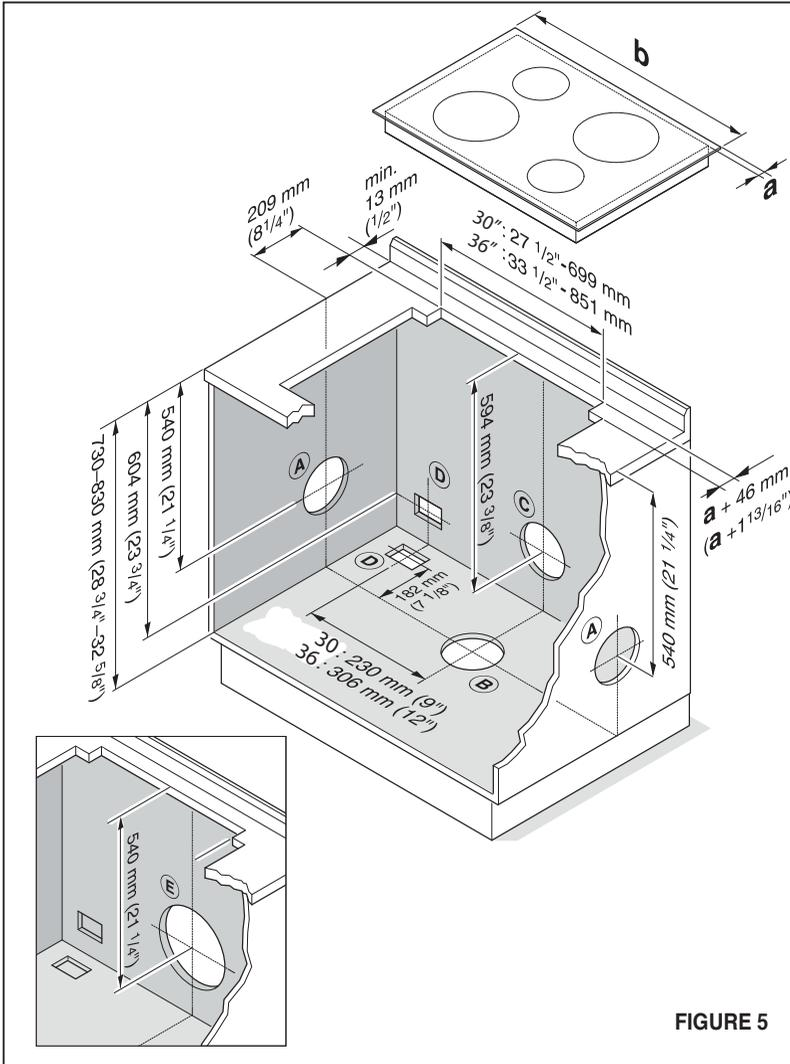
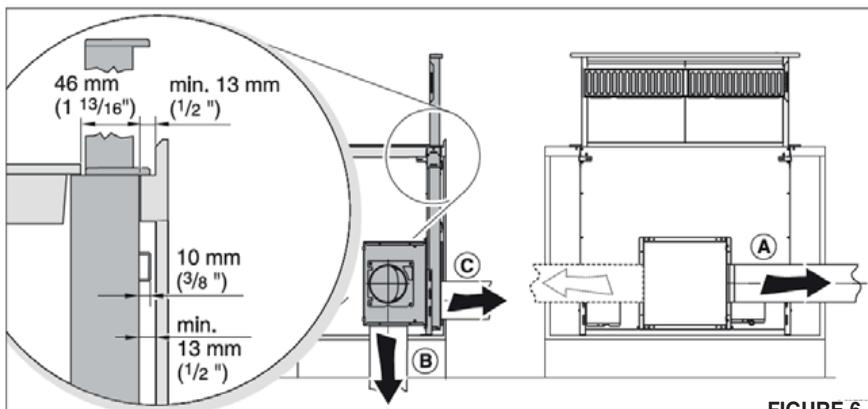

FIGURE 5
FIGURE 6
See the previous page with FIGURE 5, and FIGURE 6 above for reference. When using the IBDD600-B internal blower installed on the front of the appliance use 6" Round ducting. Holes for ducting are shown on FIGURE 5, 6:(A) to the left or right (B) downwards, (C) to the rear. If the blower is being installed to the rear of the appliance, a cut-out must be made in the rear of the cabinet or wall where it will be mounted and the appropriate clearances must be maintained behind the cabinet.
See FIGURE 5, (D) Feed the power cord and control cable downwards or to the rear when using an remote blower.
See FIGURE 5 (E) When using the remote blower, install 10" ducting to the rear. If installing the exhaust ducting to the front, appropriate clearances must be maintained in the cabinet.